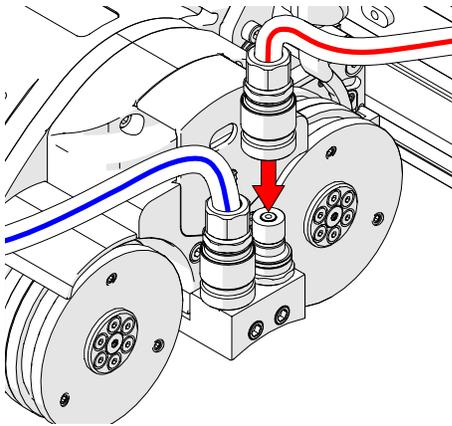

Fig. 40 - Connect hoses to crawler
1. Connect the hose fittings to the crawler's quick connect fittings (*Fig. 40*).